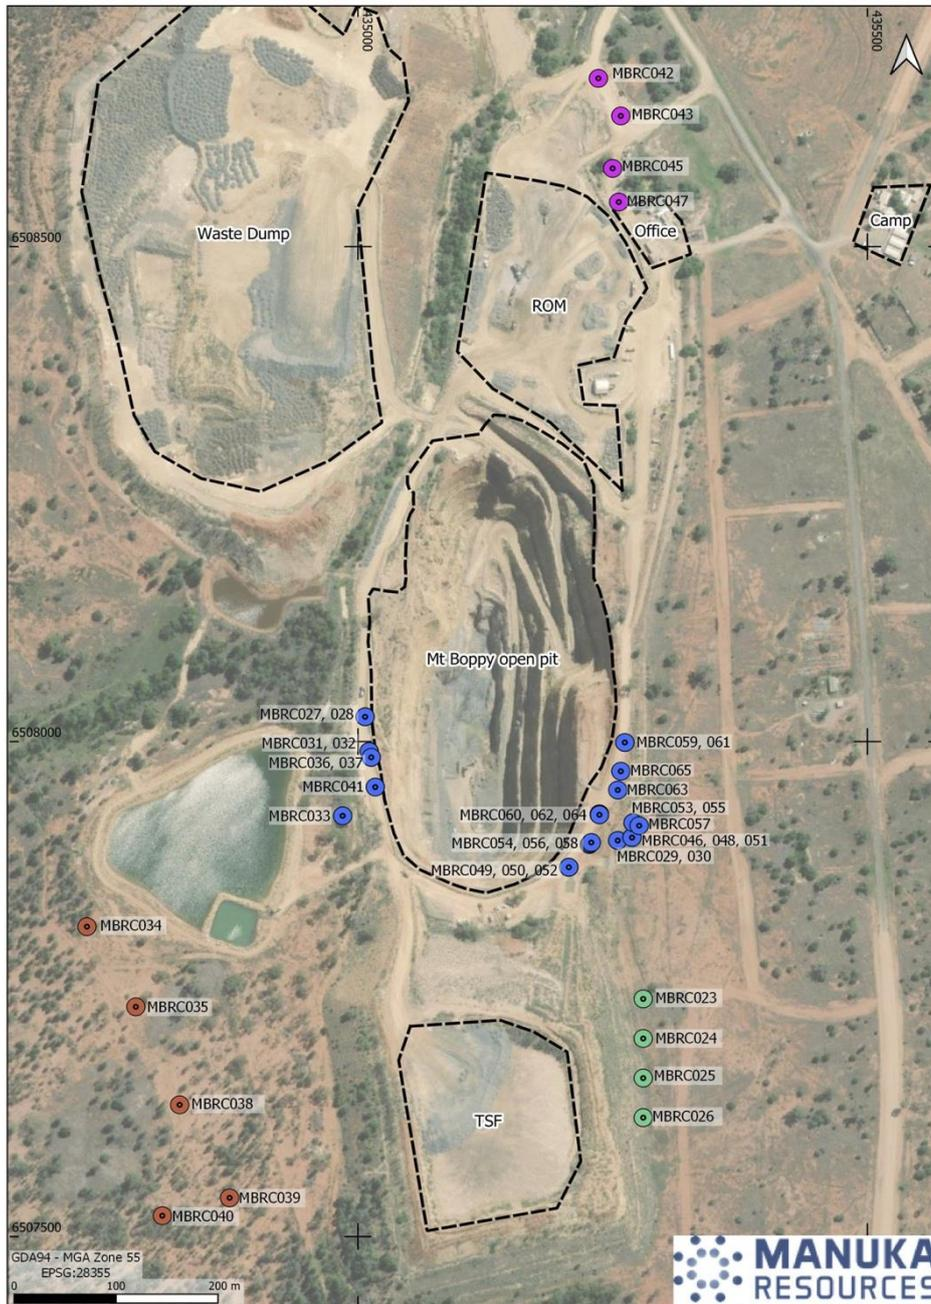

Figure 1. Collar location plan reported Mount Boppo RC drill holes.
The following intercepts beneath the Mt Boppy pit either intercepted the full width of the Boppy Main Lode in an unmined position, or intercepted the historic underground workings (tailing sand, timber support, rubble) together with wall rock to either side of the workings. Collar locations and drill traces are shown below in Figures 1 - 3.
- 29 holes (6,171m) testing mineralised extensions beneath the Mt Boppy open pit (Figure 1 below in blue)
- Four holes (972m) testing a previously undrilled strong IP target south-east of the Boppy pit (Figure 1 below in green);
- Five holes (612m) south-west of the Boppy pit testing a structural target along the West Boppy Lode and interpreted as a possible faulted northern continuation of the Boppy Main Lode (Figure 1 below in red);
- Five holes (1016m) testing the previously undrilled northern extension of the Mt Boppy Fault (Fig. 1 below in purple).